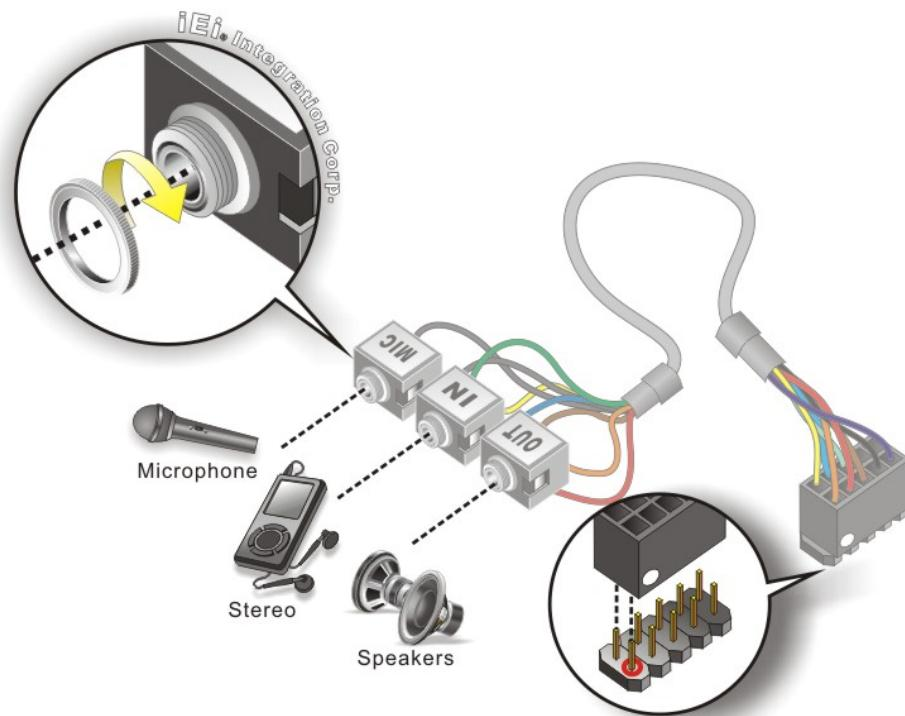

Figure 4-17: Audio Kit Cable Connection
Step 2: Align pin 1. Align pin 1 on the on-board connector with pin 1 on the audio kit connector. Pin 1 on the audio kit connector is indicated with a white dot. See **Figure 4-17**.